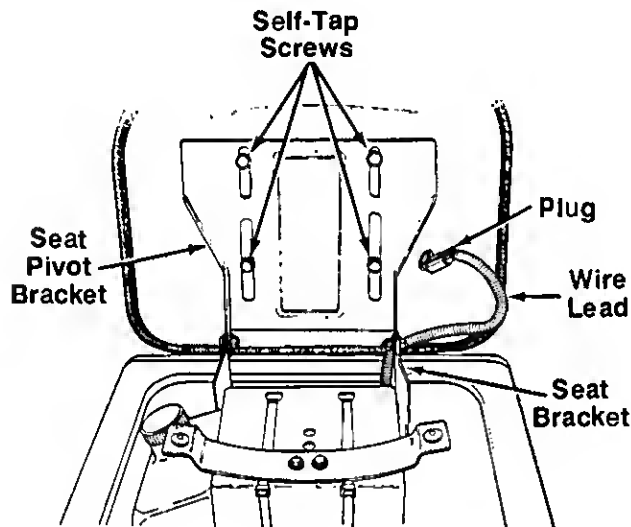

FIGURE 10.
1. The slots in the seat pivot bracket allow the seat to be adjusted to different positions. Place the seat against the seat pivot bracket in the position desired, and secure with four self-tapping screws. See figure 10.
2. Route the wire lead which is in the wire harness beneath the seat in front of the right hand seat bracket. Plug the lead into the plug on the wire lead extending from the right hand side of the seat. See figure 10.